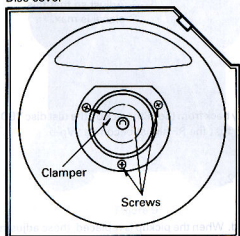

Figure 4
- (1) Remove three screws from the clamber holder, and the clamber holder can be removed. (It will be used for holding the test disc.) (Figure 4)